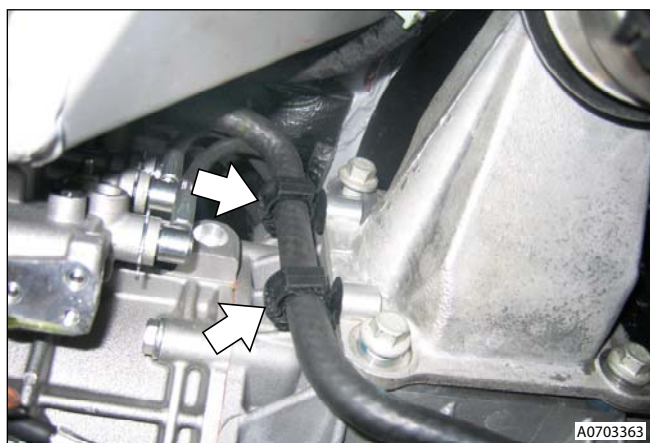

Figure 2
19. Release reservoir hose from mounting bracket (clips x2 (see Figure 2).